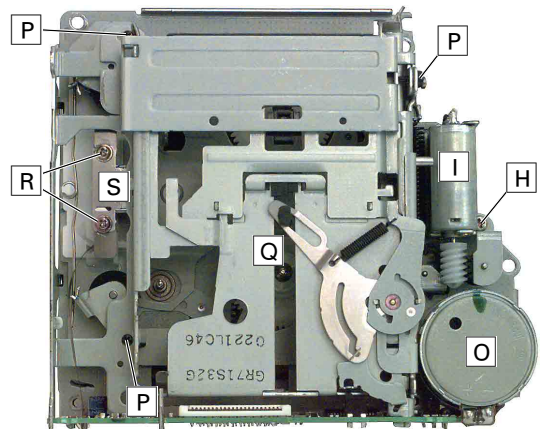

Fig. 2.6
2.2 Lademotor **I ausbauen (Fig. 2.6)**
2.6 Cassettenschacht **Q ausbauen (Fig. 2.6)**
2.7 Tonkopf **S ausbauen (Fig. 2.6)**
2.2 Removing the loading motor **I (Fig. 2.6)**
2.6 Removing the cassette compartment **Q (Fig. 2.6)**
2.7 Removing the sound head **S (Fig. 2.6)**